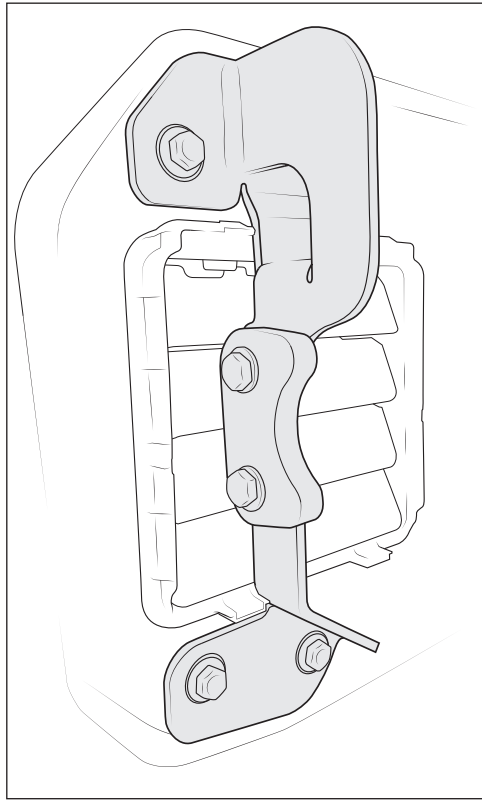

Figure 11
3. Reinstall tailgate bracket using factory bolts. Install 2 diagonal bolts first in order to visually verify in the open holes that bracket is centered over threaded holes. Torque bolts to 20 ft-lb max (fig. 11).